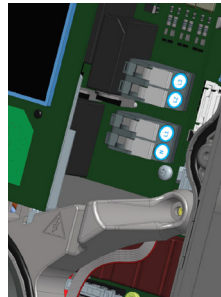

Figure 7: Attaching individual charging cable wires.
9. Push the charging cable further in and connect the wires to the outgoing clamps on the platform. See figure 7 for the location on the 3-phase Pro-line model. With the 1-phase model, only the connection points for N and L1 are available.